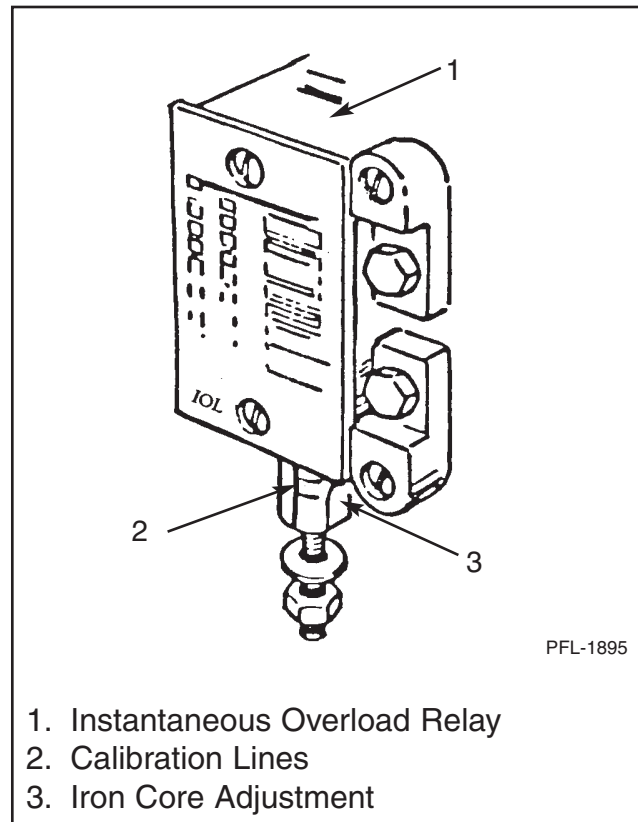

Figure 43
3. If no power is available, use calibration lines to set IOL relay at no more than the motor's full load current as shown on its serial plate. See Figure 43.